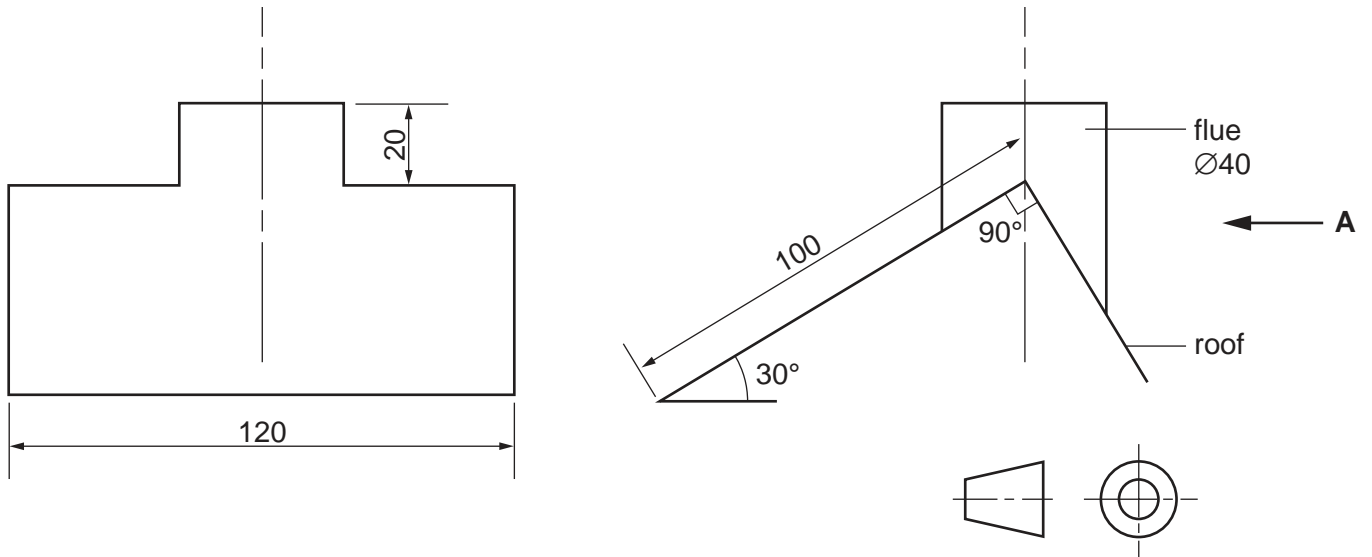

Fig. 6
- 8 Fig. 6 shows a scale model of the roof of a new boiler house for a school. The model is to be constructed from thin card.